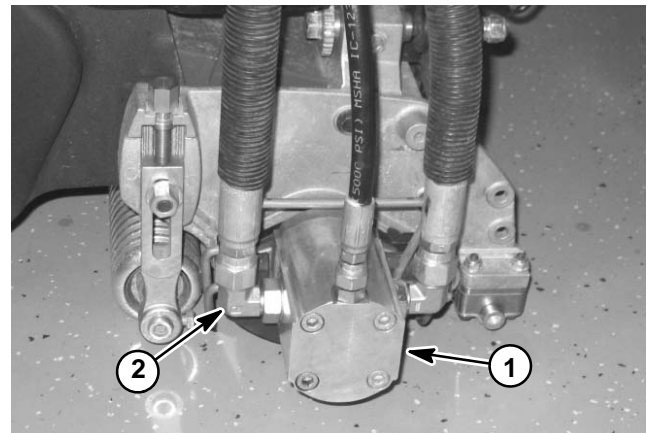

Figure 28
1. Make sure hydraulic oil is at normal operating temperature by operating the machine for approximately ten (10) minutes.
3. Thoroughly clean junction of hydraulic hose and front fitting on the left front cutting reel motor (#2 cutting unit) (Fig. 28). Disconnect hose from motor fitting.
6. Make sure backlap lever on the mow control manifold is in the **mow** position and reel speed knob (FC) is set to highest speed setting (fully open).